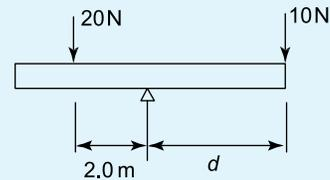

Figure 5.33
2. The distance  $d$  in Figure 5.33 when the beam is in equilibrium is: